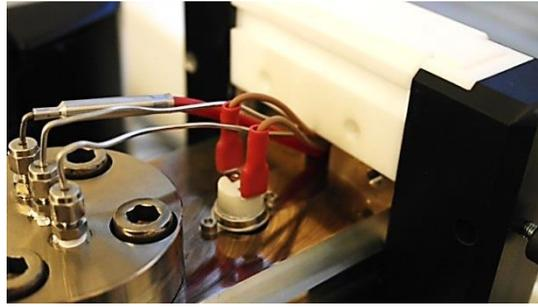

Fig. 2 Over temperature switch is located on top of the chamber
There are two levels of overheating switches in the system. The first one is embedded in the software. The software will prevent heating the chamber over the set temperature (set by manufacturer to 210 °C). In case of software failure, the overheating switch is located at the top of the chamber (see Fig. 2) and is set to 225 °C. After the over temperature incident, always evaluate what led to the overheating to prevent it in the future.
2. Attach the cables to the thermal switch as shown in Fig. 2. Note that if the cables are not connected, heating of the chamber is not possible.